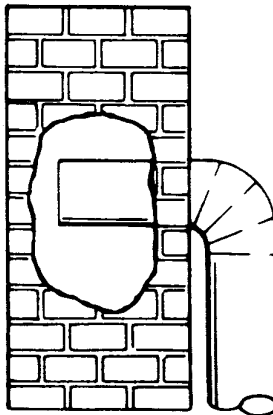
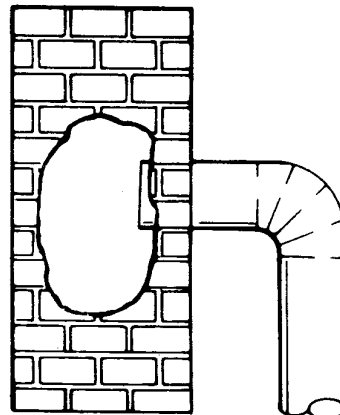

Figure B-2
Figure B-3
- i. A chimney connector must not project into the inside of a flue. The connector shown in Figure B-2, (below) chokes the flow of gases from the connector to the chimney and severely restricts draft. Correct installation is shown in Figure B-3, (below).